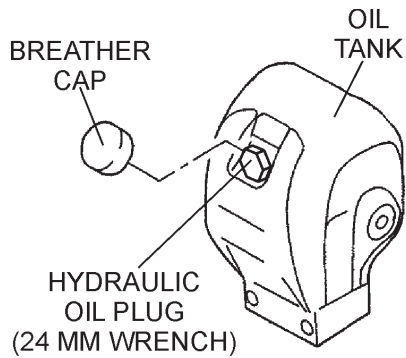

**Figure 5. Engine Oil Level**
4. If the oil level is low (Figure 5), fill to the edge of the oil filler hole with the recommended oil type (Table 4).